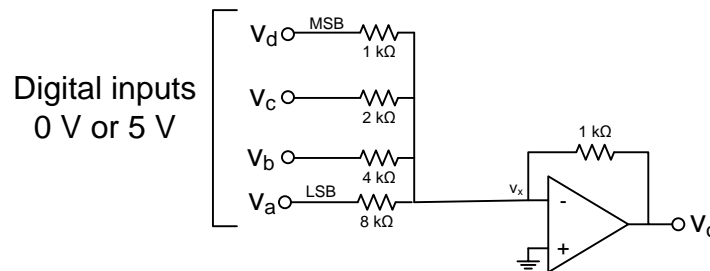

Figure 5: DA converter using summing op-amp.
- (5p) (d) A summing DA converter is shown in Figure 5. Which binary input has been applied to the DA converter if it has an output voltage v_o of -3.1V ?